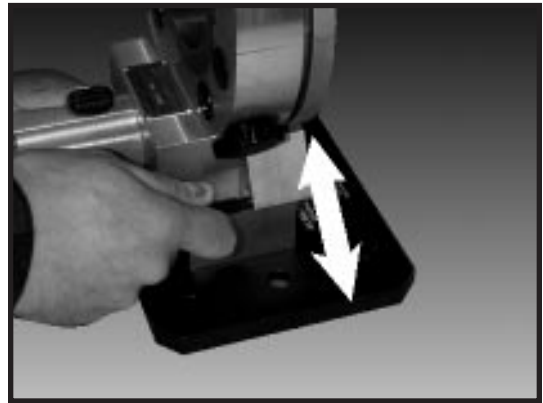

FIGURE 5
2. Slide Trip Handle inward to engage Starwheel Feed System on the Tool Slide. To pause cutting operation, pull Trip Handle outward (Figure 5).